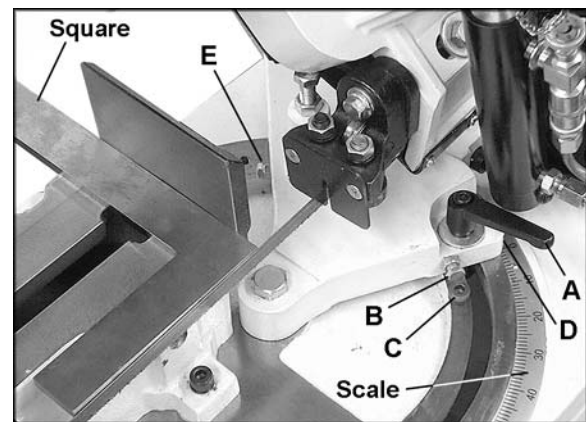

Figure 10
1. Loosen the handle (A, Figure 10) and make sure the bow is swiveled enough that the stop screw (B, Figure 10) is contacting the fixed screw (C, Figure 10).
2. Place a machinist's square on the bed against the blade and the fixed jaw of the vise, as shown in Figure 10. The square should lie along the entire length of the jaw and blade without a gap.
3. If the vise and blade are not square, loosen the hex nut on the stop screw (B, Figure 10) with a 10mm wrench and rotate the stop screw as needed until the vise and blade are square
whenever the stop screw is contacting the socket head cap screw (C, Fig 10).
4. If the vise and blade are square but the pointer (D, Figure 10) is off slightly, loosen the screw and adjust the pointer until it lines up with zero on the scale. Tighten the screw.
Note: The handle (A, Figure 10) is adjustable. Simply lift up on the handle and rotate it on the pin. Release the handle, making sure it seats itself properly on the pin.
If adjustment is needed, loosen the hex nut on the 45° stop (E, Figure 10) and rotate the screw as needed with a 10mm wrench. When satisfied, tighten the hex nut.
6. Remove the socket head cap screw (C, Fig. 10) to allow the bow to swivel.